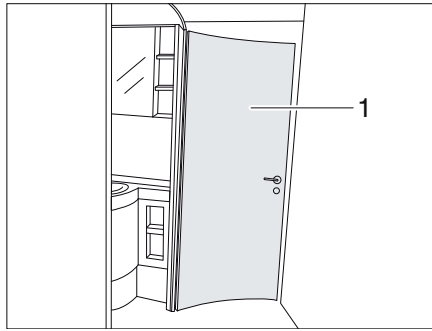

Fig. 236 Bath area
The door of the toilet area (Fig. 236,1) can be locked into a bath area in 1-3 different opening widths depending on the equipment. Depending on the selected opening width, different room segments can be combined with each other.
- ▷ The door of the toilet area (Fig. 236,1) may not be used as a partition during the journey.